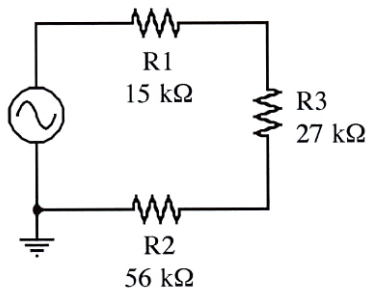

Figure 1-4. Series Circuit Measurements
4. Connect the circuit of Figure 1-4, grounding one side of the generator. After the circuit is connected, use the scope to set the generator to 8.0 V_{pp} at a frequency of 2.0 kHz.
6. Repeat the resistor voltage measurements, but this time move the resistors around such that when each resistor's voltage is measured, it is in the location of R2 in Figure 1-4. Keep both the generator and the scope ground leads together. Record in Table 1-4.